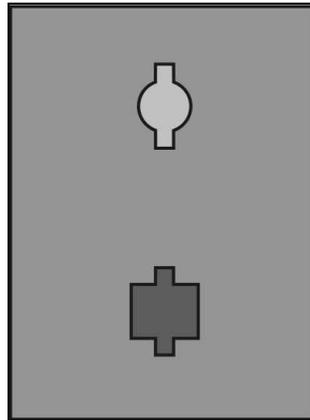

Figure 3-108. Mobile Unit and Control Station Symbols
- (1) Symbols (see Figure 3-108).